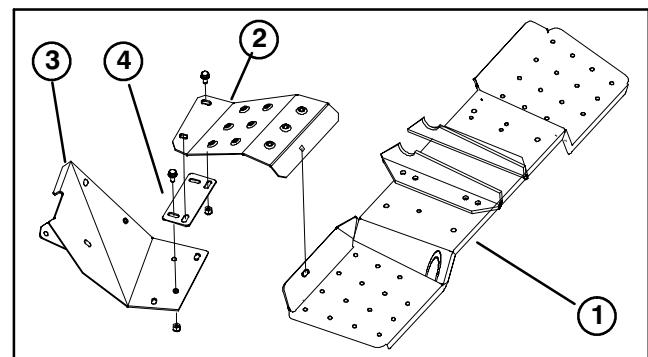

Figure 10
8. Loosely mount footrest shield and new footrest plate to right footrest with (2) flange head screws and nuts (supplied in kit) and fasteners previously removed. Position components as shown in figure 10.